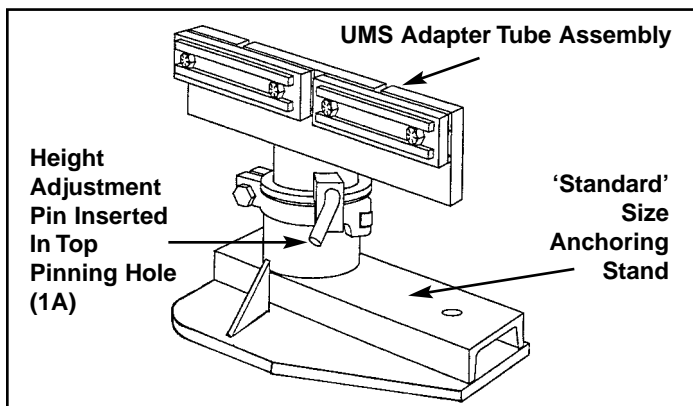

Figure 8
1. Attach two clamp jaws to vertical plate of adapter tube, install tube in anchoring stand base (see Figure 8) and position stand at front of center section on side of vehicle that must not move with pull.